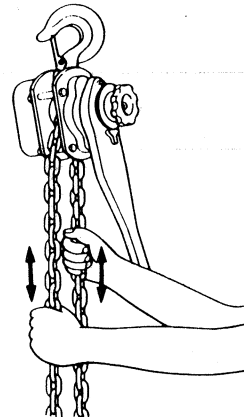

FIGURE 3-G.
- e. When the reversing lever is put into the UP or DOWN position, it should lock the free-chain lever as shown in Figure 3-H, which prevents the free-chain knob from being pulled out.